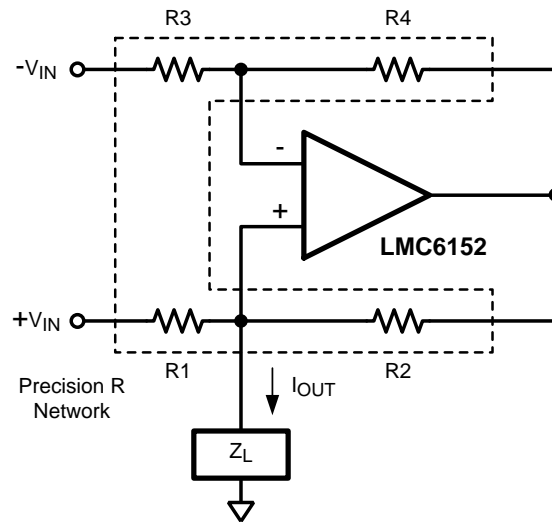

Figure 10. Basic Howland Current Pump with Precision Resistor Network
4. Buy matched sets of tightly-matched resistors. These can be purchased in sets of 4 for a couple dollars, in an SOIC package, such as four 10k resistors matched to 0.1% or even to 0.01% of ratio. See Figure 10. Resistors such as Caddock T914's (in SIP packages) can be found at: www.caddock.com/Online_catalog/Mrktg_Lit/TypeT912_T914.pdf These are available with matching down to 0.01%. Resistors such as Vishay Beyschlag ACAS 0612's are at www.vishay.com/ The catalog lists these as good as 0.1% matching, in Surface Mount packages. Bourns has thin-film networks in DIPS (4100T Series) and in surface mount packages (4400T Series) at: www.bourns.com/. Their tolerance is better than 0.1% but the matching specs are not listed.